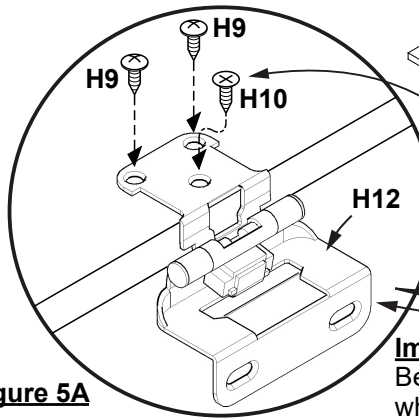

Figure 5A
10. Install 3 pcs **H12** Door Hinges to Pilot Holes on Part **G** using 6 pcs **H9** Phillips Round Head Screws and 3 pcs **H10** Phillips Flat Head Screws. See **Figure 5A**.